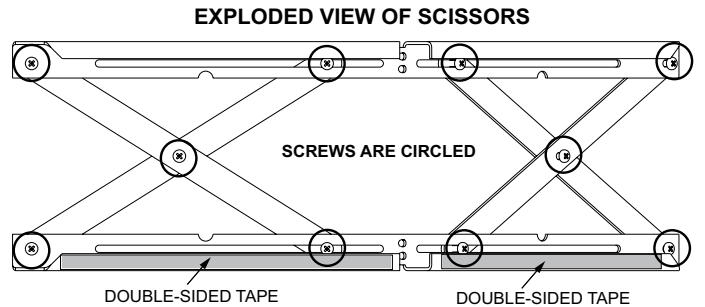

Figure 14A
1. The 10 screws on each set of scissors will already be loose when shipped. **See Figure 14A.**